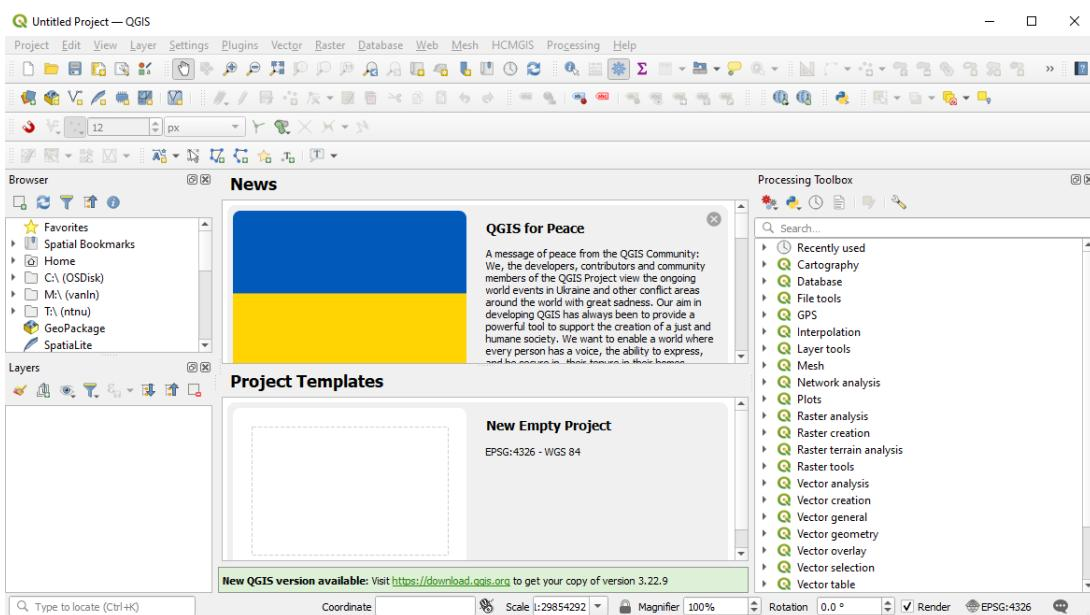

Figure 1-10. Opening a new QGIS project
- Step 6: Finish installation and start a new QGIS project (Figure 1-10).